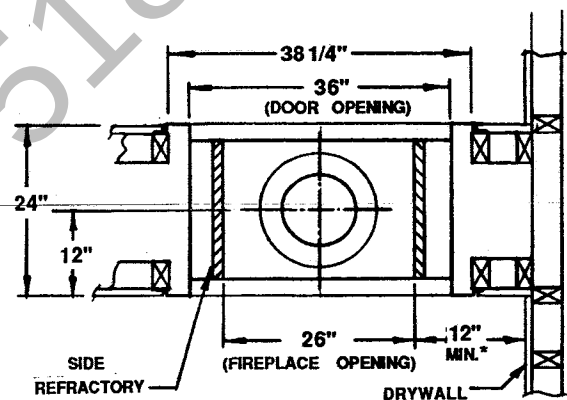

FIGURE 1
- A fireplace must not be installed closer than 12 inches to any unprotected combustible wall perpendicular to the fireplace opening (Figure 1).